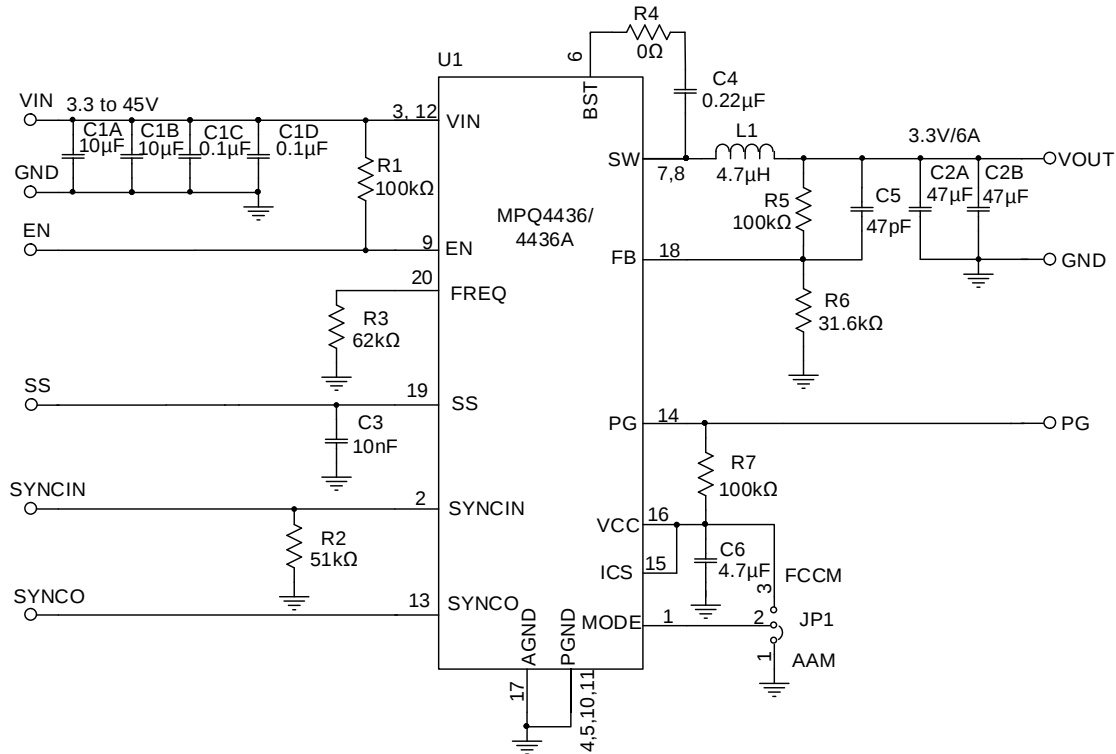

Figure 13: Single-Phase, V_{OUT} = 3.3V, f_{SW} = 470kHz
- 6) The recommended PCB layout is based on Figure 13.